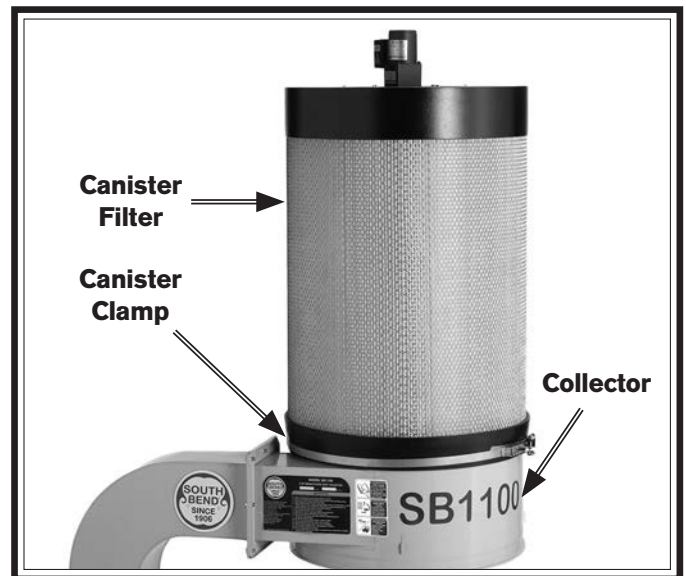

Figure 75. Canister filter secured to collector with canister clamp.
13. Position canister clamp around base of canister filter, then place canister filter over collector (see **Figure 75**). Tighten clamp.